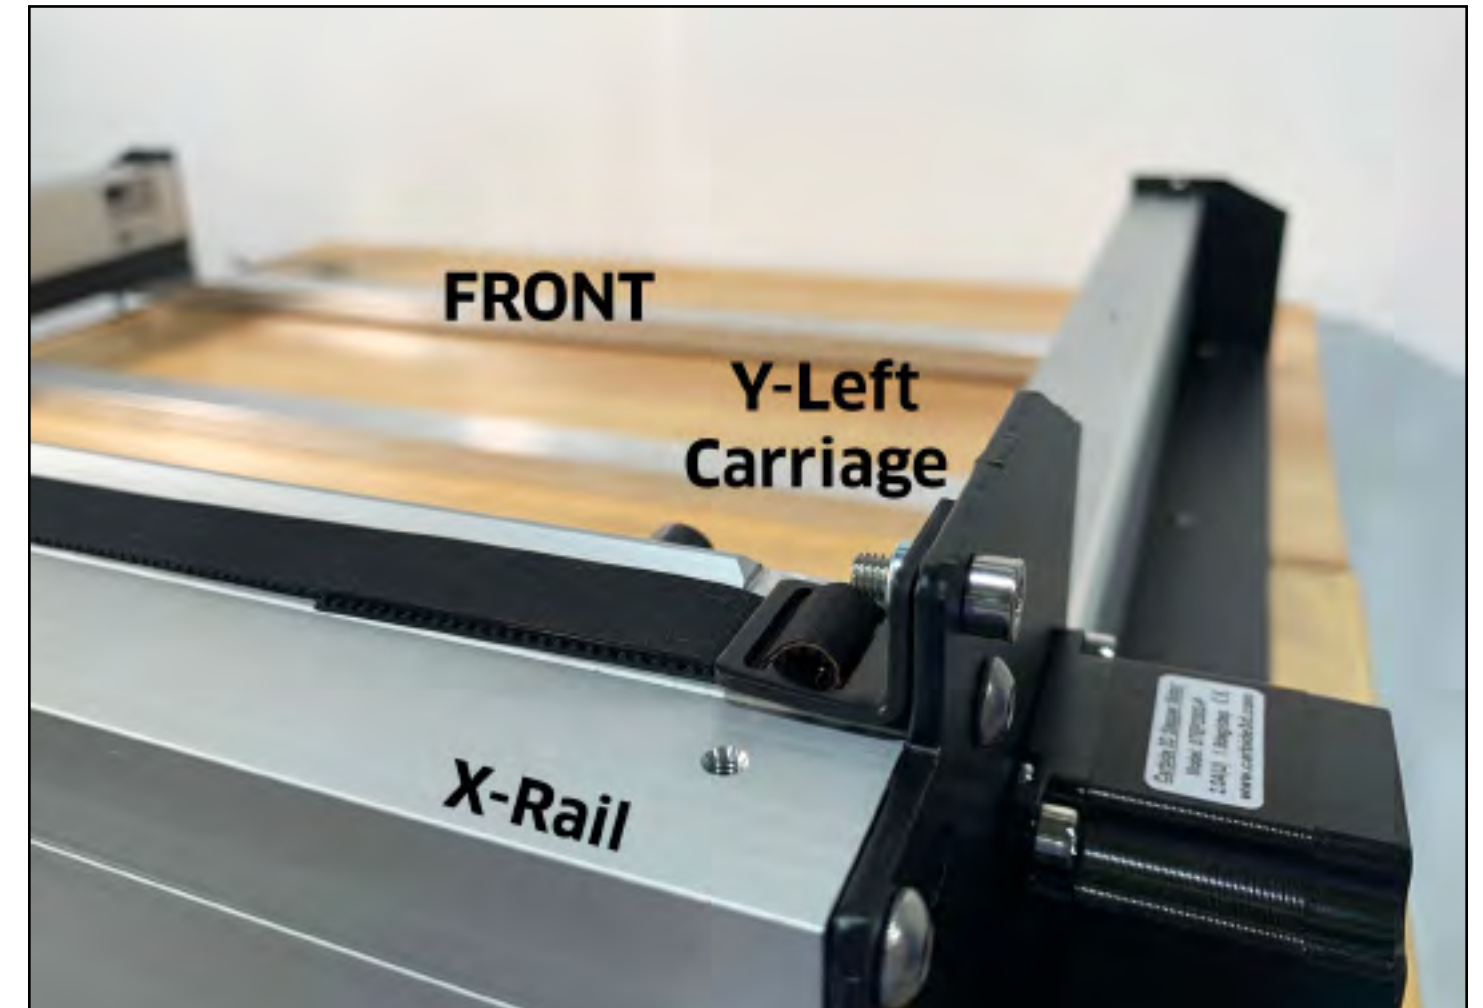

Figure 5-5
3. Use a 4mm hex key and one (1) M5×12mm SHCS to secure the belt clip to the top of the Y-Left gantry plate. See **Fig. 5-5**.